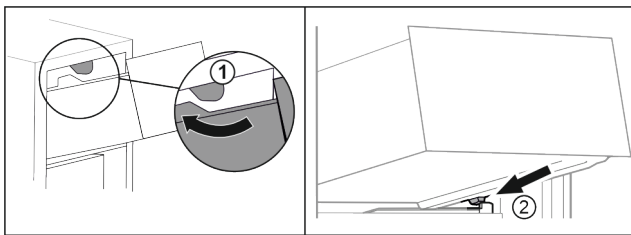

Fig. 88
- ▶ Guide drawer around the upper stoppers. Fig. 88 (1)
- ▶ Place drawer at an angle behind the lower stoppers onto moulded rib. Fig. 88 (2)